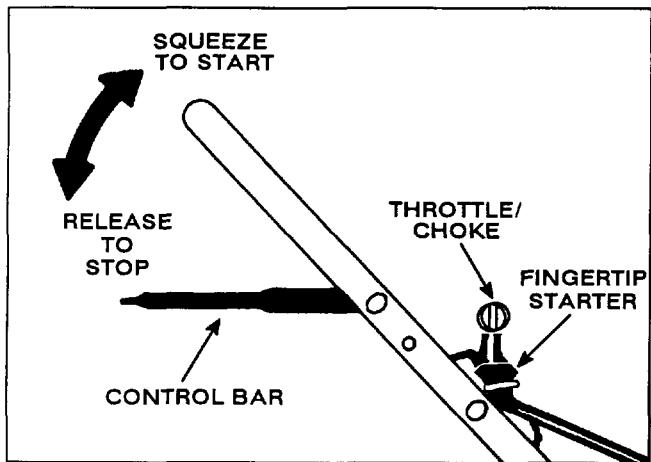
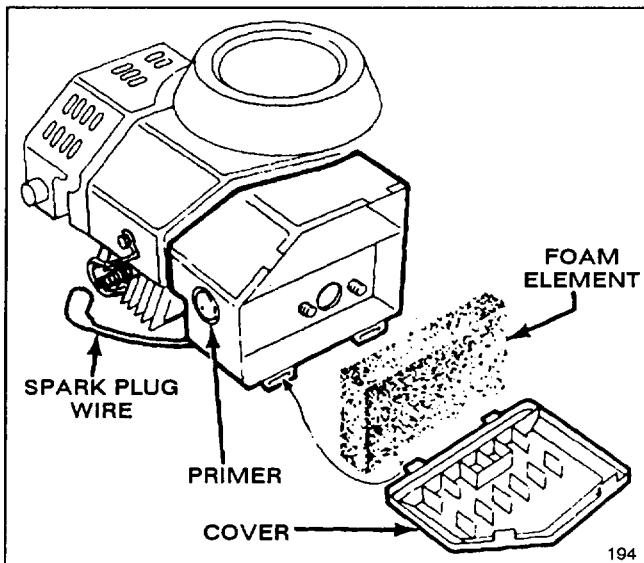

Figure 7
Figure 10
- CONTROLS (Fig. 7)—Throttle/choke, control bar, and fingertip starter are on upper handle.
- STARTING—Push spark plug wire onto spark plug (Fig. 10). Move throttle control (Fig. 6) to CHOKE. Cover hole in center of primer with thumb and push once (Fig. 10). Hold control bar against handle. Pull fingertip starter (Fig. 7) out until positive engagement results; then pull vigorously to start the engine. Regulate throttle as desired when engine starts.
- STOPPING (Fig. 7)—Release control bar and stay behind handle until engine and blade stop. Pull wire off spark plug if mower will be unattended or not used.
- Stop the engine and pull the wire off the spark plug (Fig. 10).
1. Stop engine and pull wire off spark plug (Fig. 10).
2. Lift tabs at top of air cleaner cover and pivot cover down. Clean cover thoroughly (Fig. 10).
3. If outside of foam element is dirty, remove it from air cleaner body (Fig. 10). Clean thoroughly.